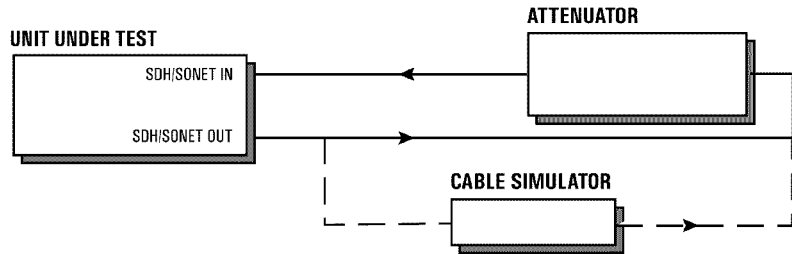

Figure 3-5 Receiver Monitor Input Test Setup
- 2 Connect the equipment as shown in Figure 3-5.